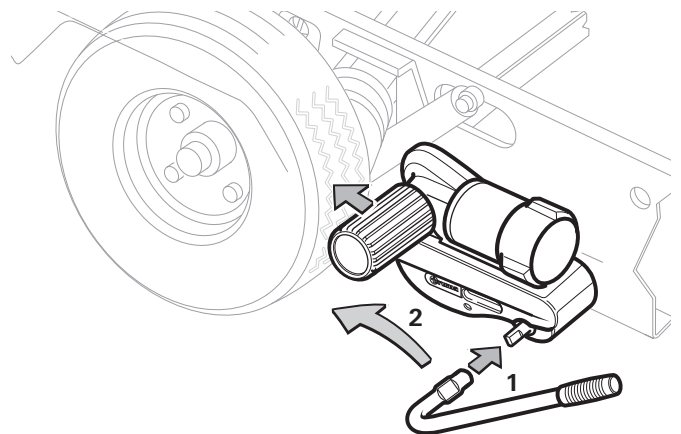
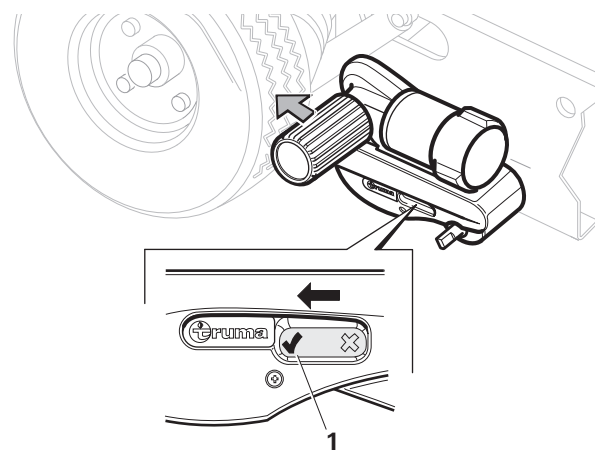

Figure 4
Figure 5
- Attach the engagement lever to the toggle crank (Figure 4 - 1).
- Turn the engagement lever in the direction of the arrow (towards the vehicle wheel) (Figure 4 - 2) until the position indicator is at "✓" (Figure 5 - 1) in the housing. In the end position, the drive unit engages securely and the drive roller is pressed approx 20 mm into the tyre. This must be checked on both sides before manoeuvring.